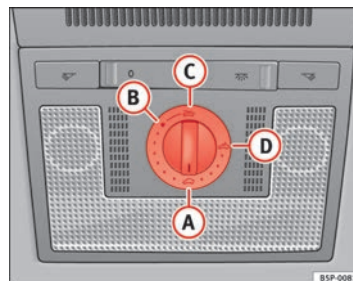

Fig. 70 Roof lining description: sliding/tilting sunroof rotary knob ▶
- Turn the rotary button to position **A** ⇒ Fig. 70 ⇒ **A**.